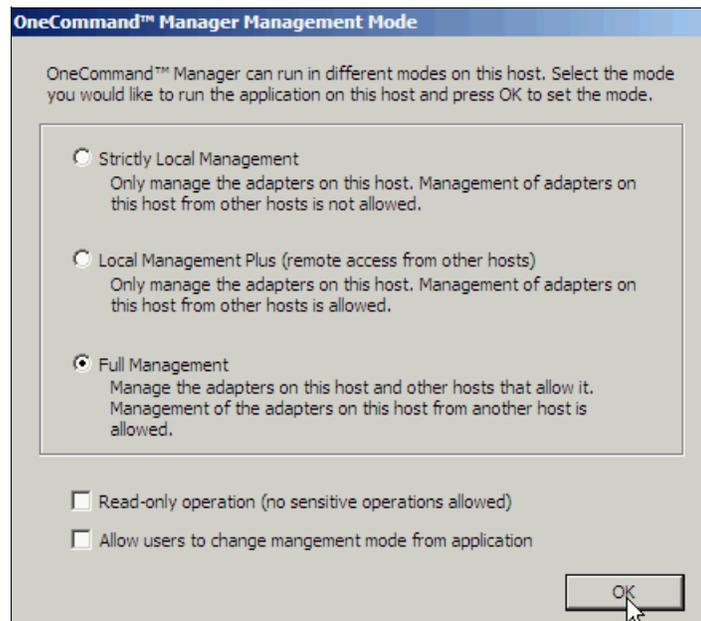

Figure 10-68 OneCommand Manager Management Mode window
4. In the OneCommand Manager Management Mode window (Figure 10-68), select one of three modes operations: